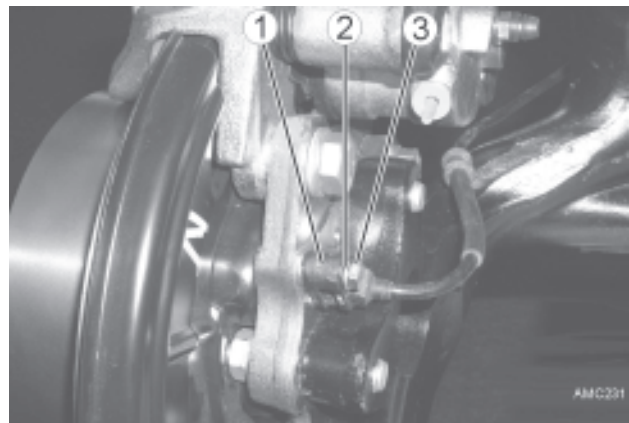

Fig. 29
9. Unscrew hexagon bolt (Fig 29 -3) with washer (Fig 29 -2) and remove speed sensor (Fig 29 - 1), (if fitted).